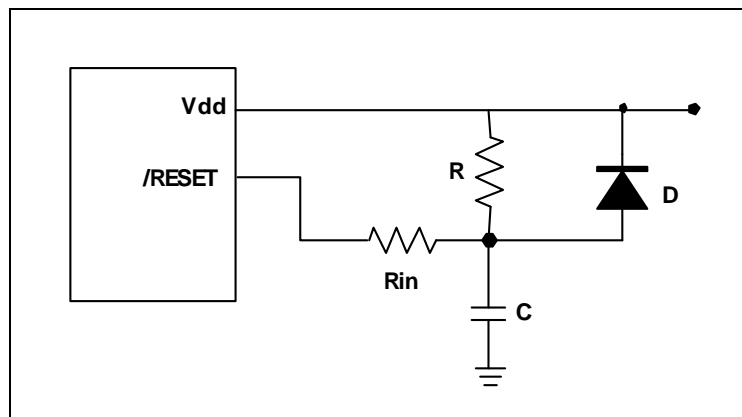

Figure 6-23 External Power-up Reset Circuit
The circuit shown in Figure 6-23 implements an external RC that can produce the reset pulse. The pulse width (time constant) should be kept long enough for Vdd to reach minimum operation voltage. This circuit is used when the power supply has slow rise time. Because the current leakage from the /RESET pin is  $\pm 5\mu\text{A}$ , it is recommended that R should not be greater than 40K. In this way, the /RESET pin voltage is held below 0.2V. The diode (D) acts as a short circuit at the moment of power down. The capacitor C will discharge rapidly and fully. The current-limited resistor, Rin, will prevent high current or ESD (electrostatic discharge) from flowing to pin /RESET.